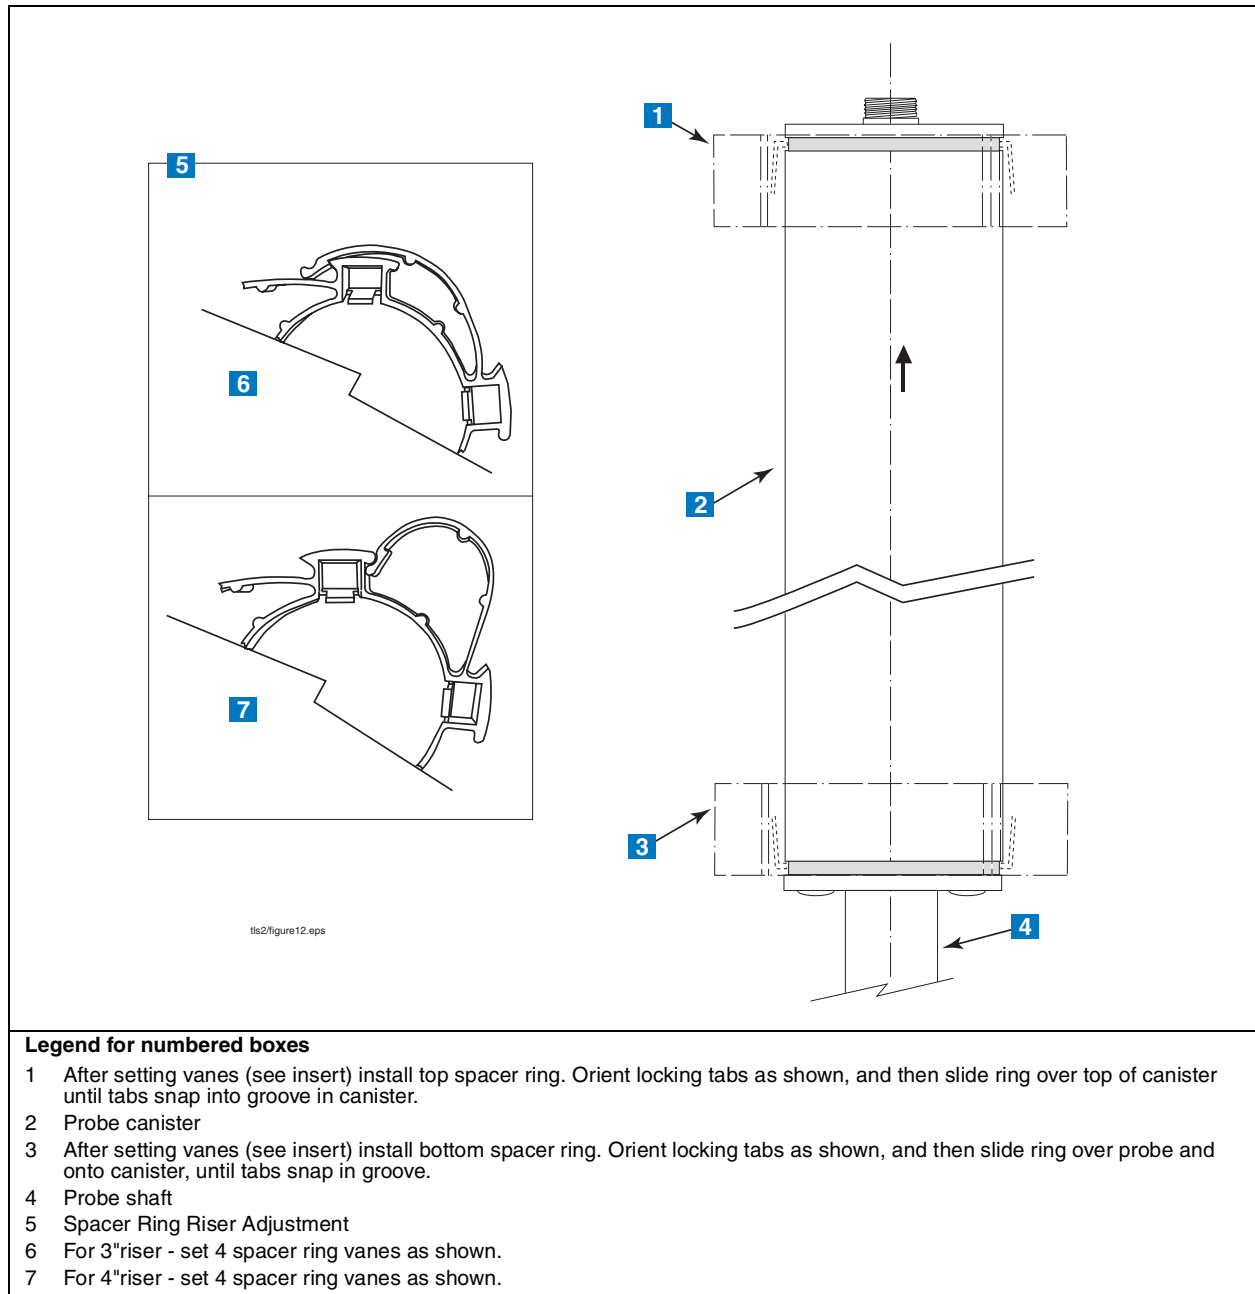

Figure 5. Installing Probe Canister Spacer Rings
2. After setting the spacer vanes for a 3- or 4-inch riser (see Figure 5), install the two spacer rings as shown. Note: you must slide the bottom spacer over the probe and onto the lower end of the canister. NOTE: spacers are not required for a 2-inch riser.